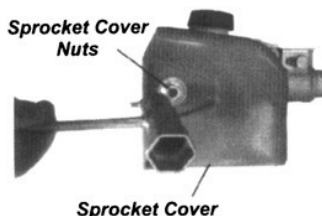

Figure 16
1. Using the small end of the plug wrench, remove the sprocket cover nut (turn counterclockwise to remove) and remove the sprocket cover. See Figure 16.